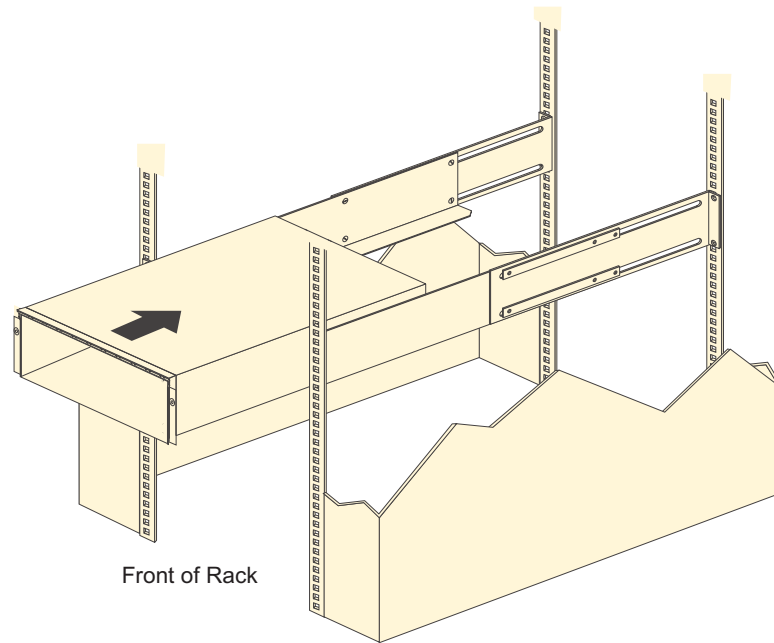

Figure 22. Installing the EXP100
- b. With help from another person, place the back of the expansion enclosure on the support rails. Slide the unit into the rack, as shown in Figure 22 on page 41.